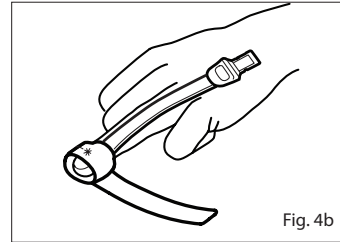

Fig. 4b
3. Refer to Fig. 4b. Wrap the adhesive wrap around the finger so the emitter window (✱) aligns on the top of the finger directly opposite the detector. Complete coverage of the detector window is needed to ensure accurate data.